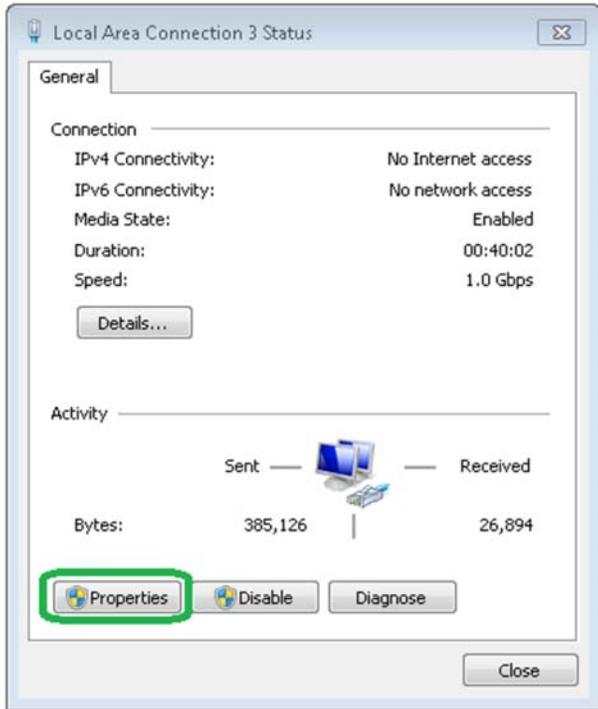
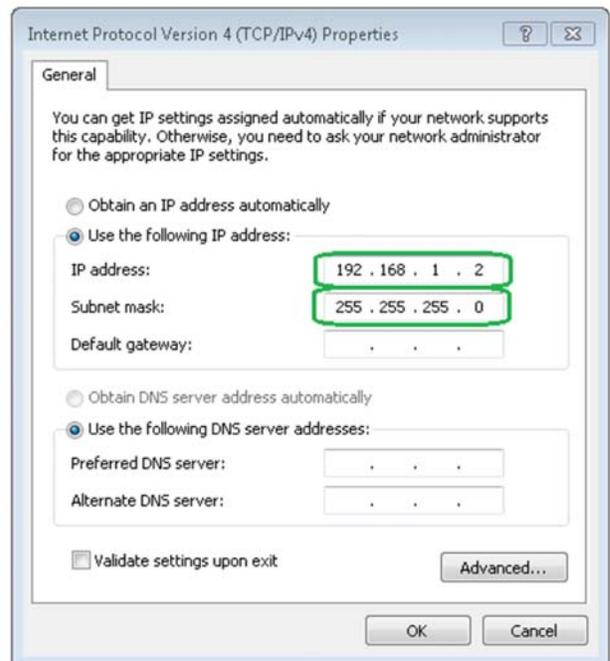

Figure 176. **General** Tab Properties
Figure 178. Select the Proper IP Address and Subnet Mask
- b. With an Ethernet connection dedicated to the ZYNQ platform, manually set the IPv4 address to 192.168.1.2 and set the IPv4 subnet mask to 255.255.255. See the Instructions to Set the IPv4 Addresses section and Figure 176 to Figure 178 for instructions on setting the IPv4 addresses.
1. In the Windows **Control Panel**, navigate to **Network Connections > Local Area Connection > General**, and click **Properties** (see Figure 176).
3. Verify that the appropriate addresses (Step 6b of the evaluation system setup) are listed for the fields, **IP address** and **Subnet mask**, as shown in Figure 178.